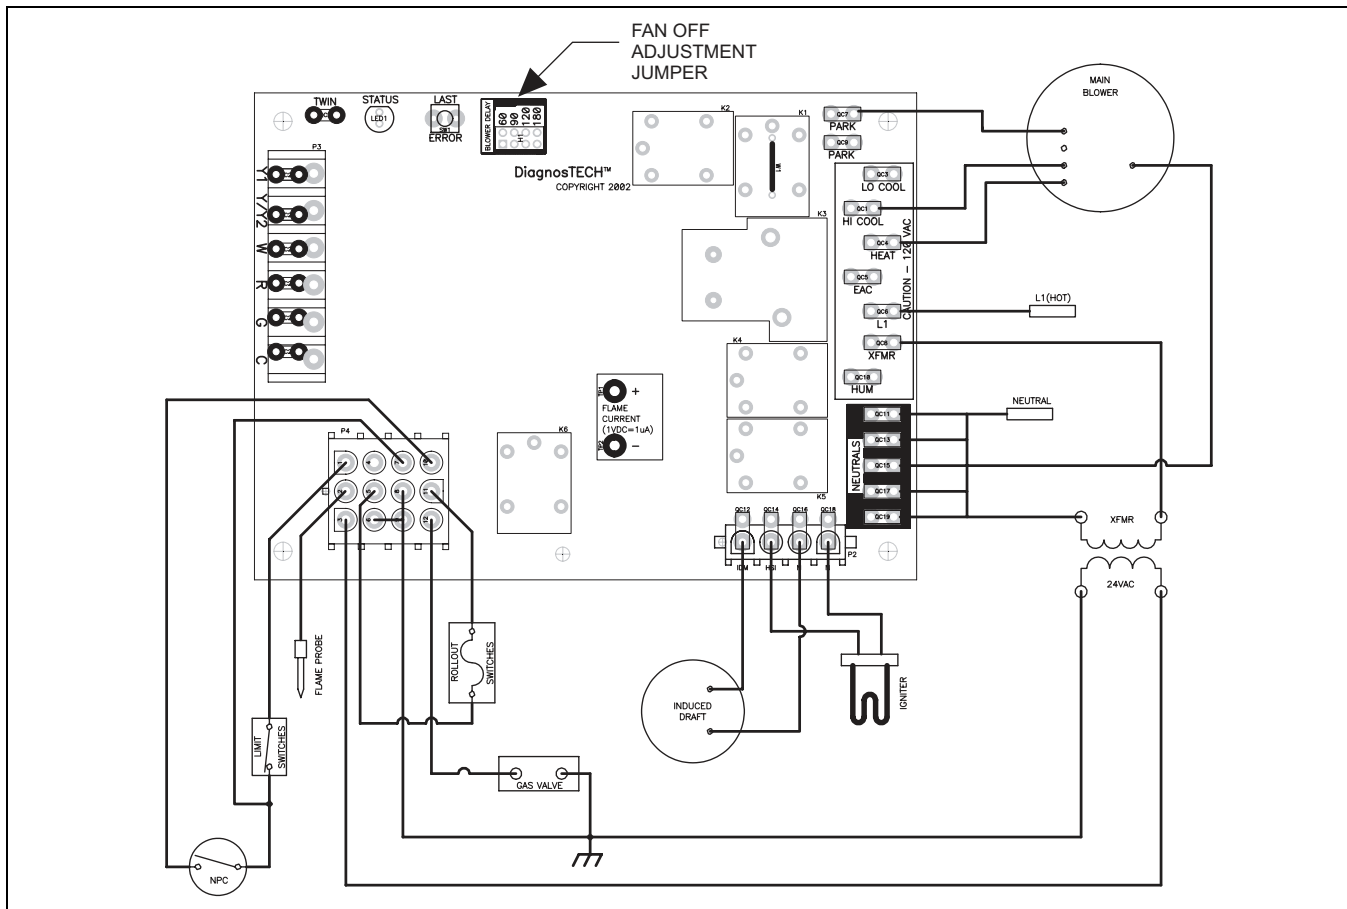

FIGURE 2: Board Layout
This furnace is equipped with a time-on/time-off heating fan control. The fan on delay is fixed at 30 seconds. The fan off delay has 4 settings (60, 90, 120 and 180 seconds). The fan off delay is factory set to 120 seconds. The fan-off setting must be long enough to adequately cool the furnace, but not so long that cold air is blown into the heated space. The fan-off timing may be adjusted by positioning the jumper on two of the four pins as shown in Figure 2.
1. Connect all wires according to the electrical wire diagram. Refer to Figure 2 for the locations of the terminals to be connected.